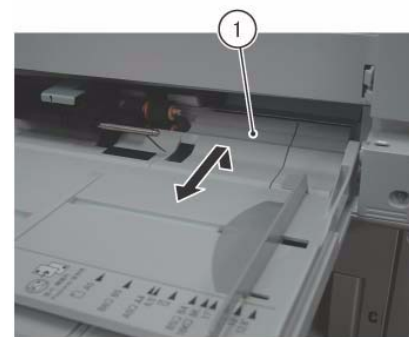

Figure 3 Remove the Front Chute
5. Remove the Front Chute. (Figure 3)